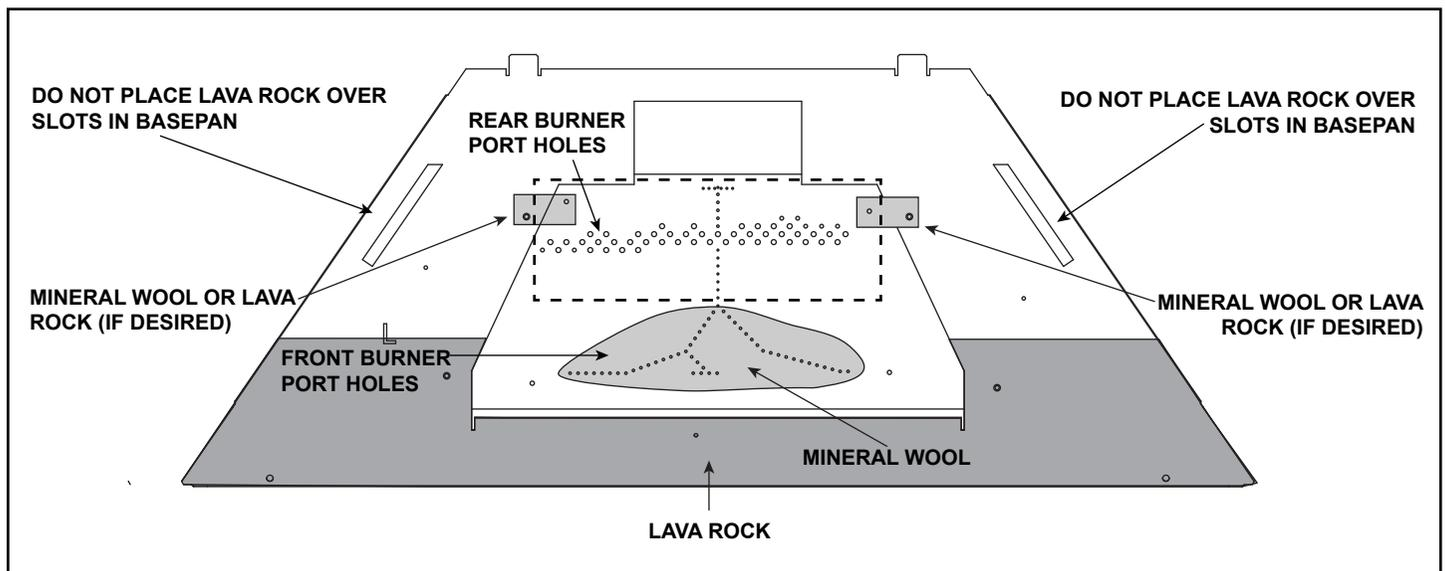

Figure 12.3 Placement of Mineral Wool and Lava Rock
- Place a small amount of 1/2 in. diameter pieces (dime-size) mineral wool on the burner pan as shown in Figure 12.3. The mineral wool may be placed loosely over the front burner port holes in the burner pan. Do NOT press them onto or into the burner port holes. This will provide the “glowing embers” look.
Place the lava rock in an even layer just heavy enough to cover the metal surface. Stay within the zone indicated in Figure 12.3. It is not necessary to use the entire bag. Save the remaining amount for future use.